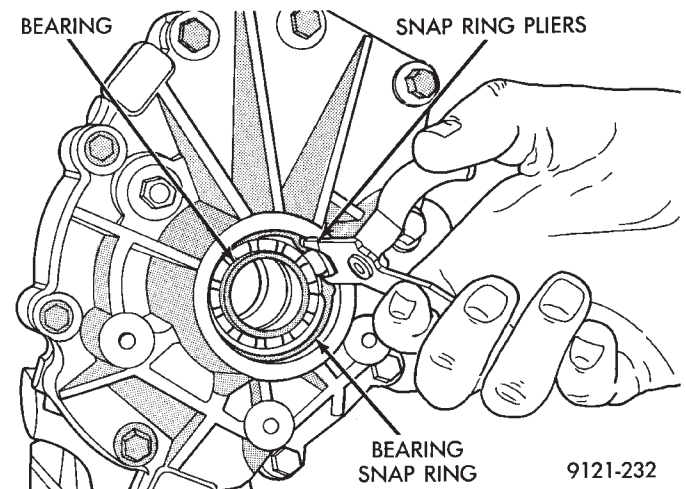

Fig. 4 Bearing Snap Ring
- (4) Remove bearing retaining snap ring (Fig. 4).